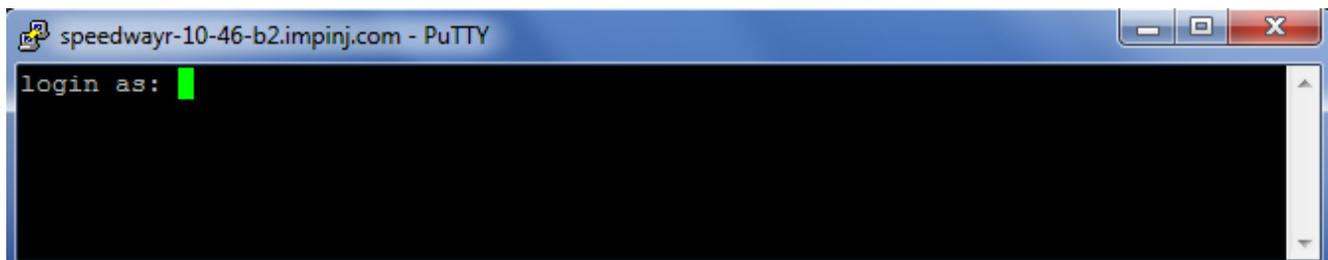

Figure 5.8 COM1 Putty Login Prompt
9. At the RShell login prompt shown in Figure 5.8, log in with the following default credentials, unless you have customized them: